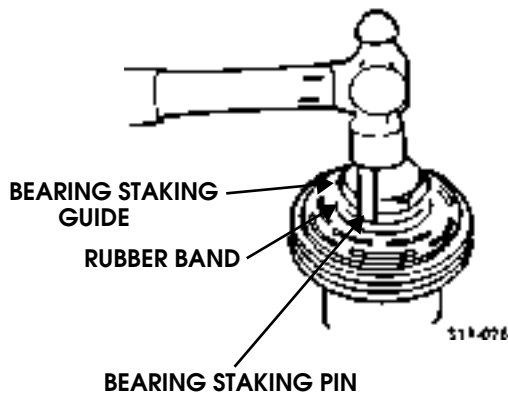

Figure 11-35: Bearing Staking Guide and Pin
- Place bearing staking guide and bearing staking pin in the hub bore. Shift the rotor and bearing assembly on the support block to give full support of the hub under the staking pin location. A heavy-duty rubber band may be used to hold the stake pin in the guide, and the stake pin should be properly positioned in the guide after each impact on the pin (Figure 11-35).